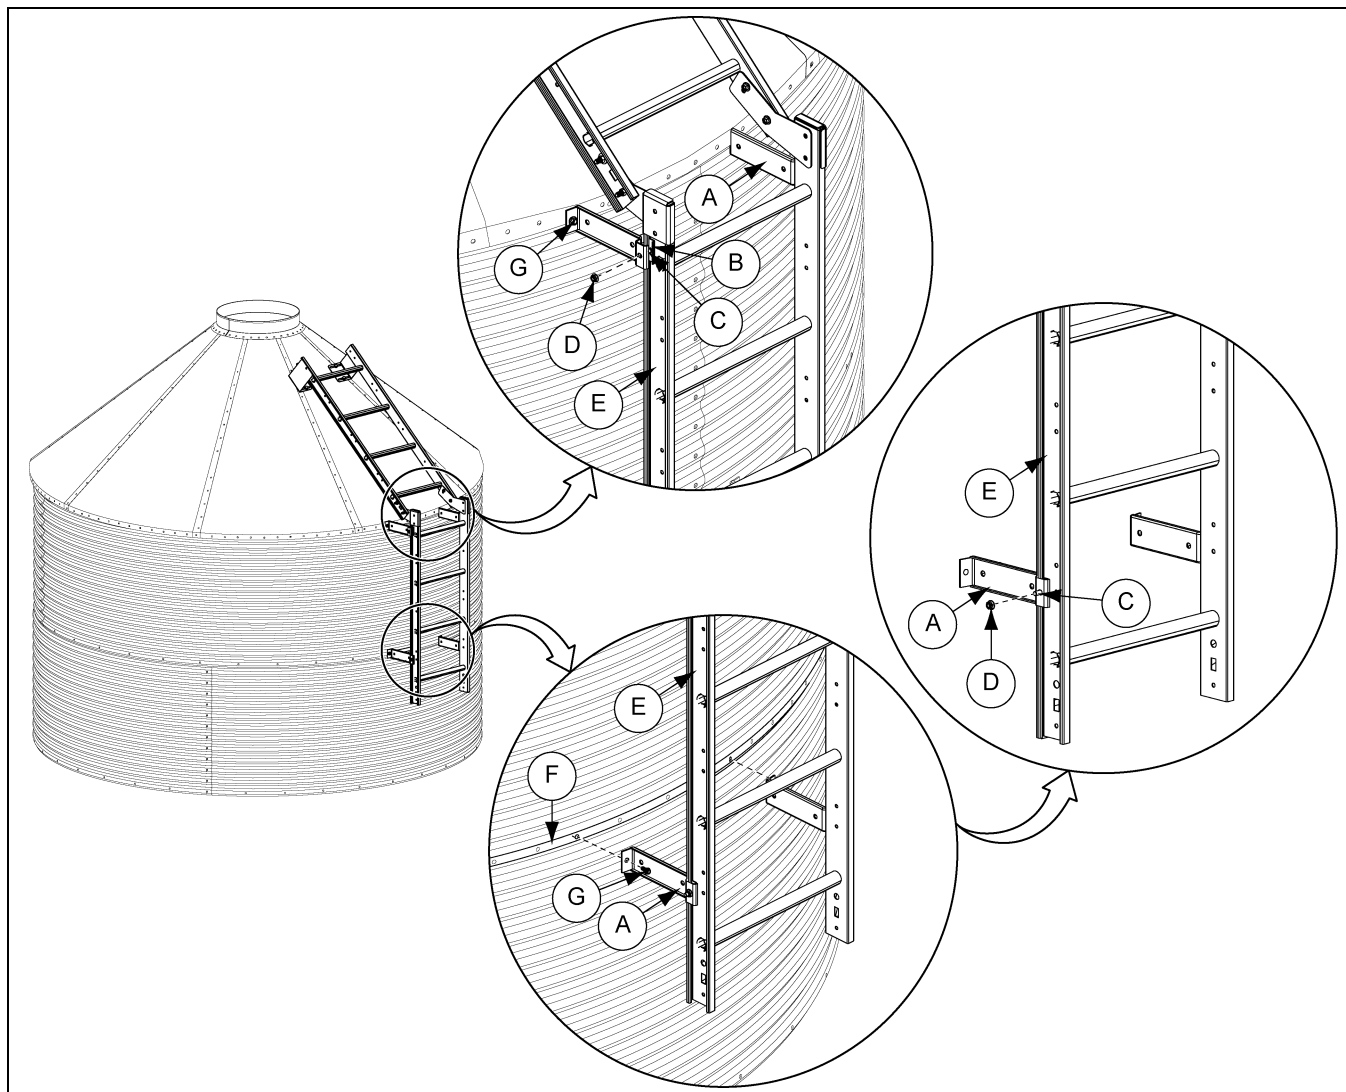

Figure 8G
1. The standoff brackets (A) must be installed on the ladder (E) and attached to the sidewall at each horizontal seam (F) (every 32"). (See Figure 8G.)
2. Assemble the standoff bracket (A) and wedge (B) to the ladder rail (E) using 5/16" carriage bolts (C) and 5/16" flange nuts (D).
3. Slide the standoff assembly along the ladder rail (E) until the standoff (A) is in line with the pre-punched hole in the horizontal seam (F) and attach to the sidewall using 5/16" x 1" bin bolts (G).